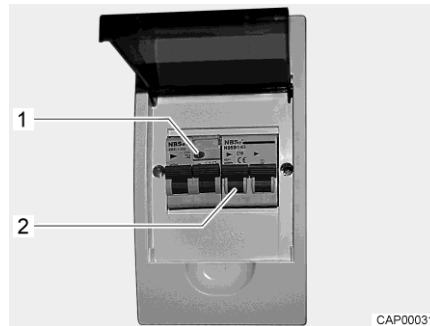

Fig. 49 230 V fuse box with safety cut-out and FI-switch
A fault current protection switch (FI-switch) in the fuse box protects the complete vehicle from fault current (0.03 A). A downstream safety cut-out (10 A) (Fig. 49,2) secures the 230 V power supply.
- When the vehicle is connected to the 230 V power supply, press the test button (Fig. 49,1). The fault current protection switch must trip.